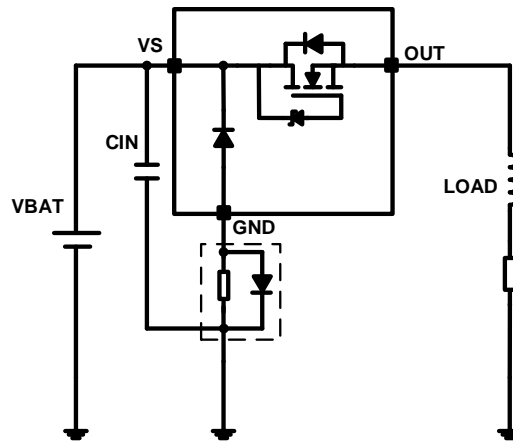

Figure 23. Reverse-Current External Protection, Method 2
- As shown in Figure 23, adding a GND network. The GND network consists of a 1 kΩ resistor and a diode connected in parallel. It is noted that when a reverse polarity occurs, there will be significant power consumption on the 1 kΩ resistor. LEN recommends the use of 1206 package resistors.